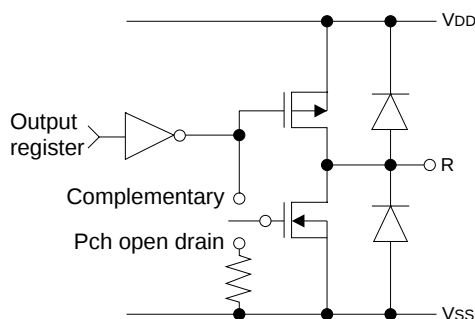
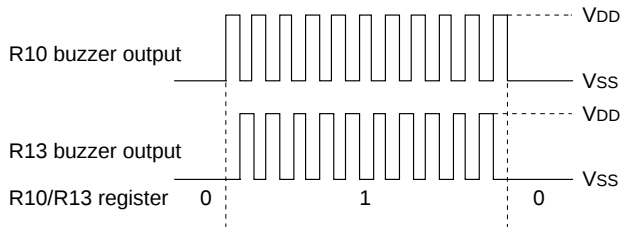

Fig. 3.3.3 Configuration of output circuit
Fig. 3.3.6 Buzzer output waveform
The output circuit configuration is shown in Figure 3.3.3.
The circuit configuration is the same as those of the output ports R00–R03 (Figure 3.3.3). Refer to Figure 3.3.6 for the buzzer output waveform.
The circuit configuration is the same as those of the output ports R00–R03 (Figure 3.3.3).
- Buzzer output waveform is shown in Figure 3.3.6.